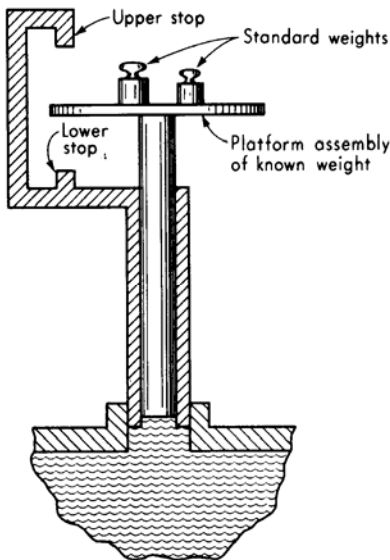

Figure 15. A dead weight pressure transducer assembly diagram.
69) The dead weight pressure transducer illustrated in Figure 15 is a null device.